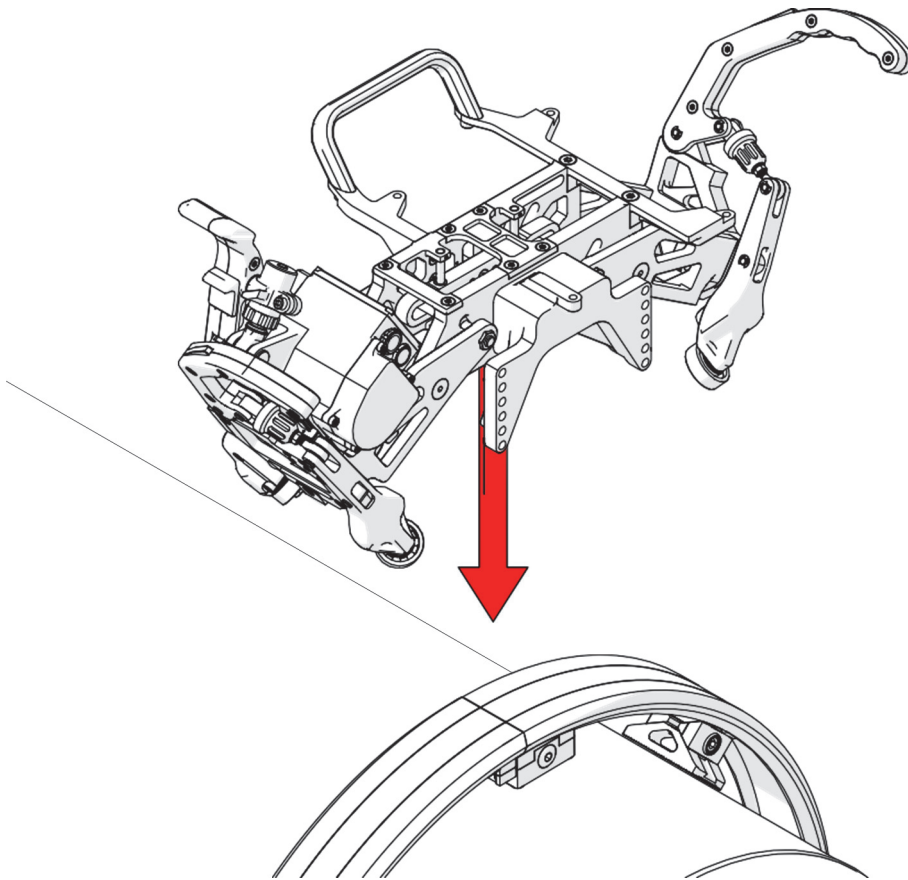

Figure 1-33 Mounting the motor carriage onto the band
3. Lower the motor carriage onto the circumferential band (see Figure 1-33 on page 50).